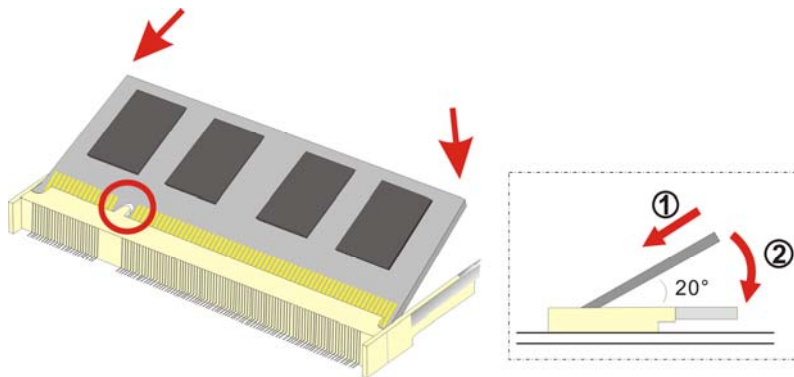

Figure 7-4: DDR SO-DIMM Module Installation
- Step 8:** Install the new DDR3 memory module by pushing it into the socket at an angle (**Figure 7-4**).
- Step 9:** Gently pull the spring retainer clips of the SO-DIMM socket out and push the rear of the DDR memory module down (**Figure 7-4**).